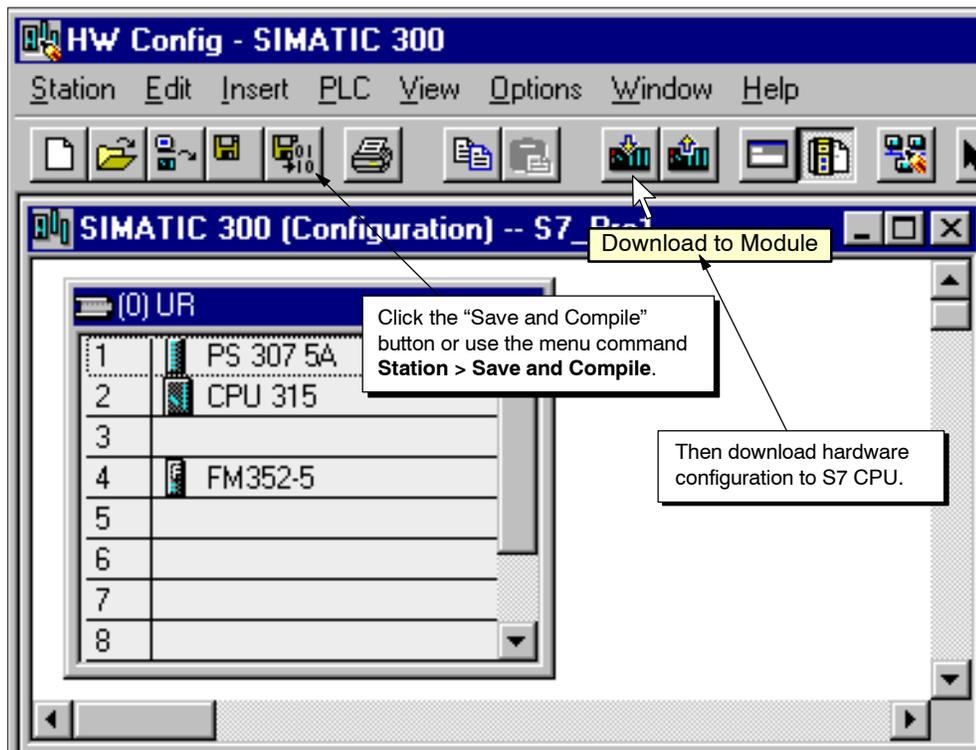

Figure 4-6 Saving and Compiling the Hardware Configuration
2. Click the "Save and Compile" button or use the menu command **Station ► Save and Compile** in the HW Config main screen, as shown in Figure 4-6.
3. Download the compiled module configuration to the S7 CPU by clicking on the "Download to Module" button or use the menu command **PLC ► Download...** in the HW Config main screen, as shown in Figure 4-6.